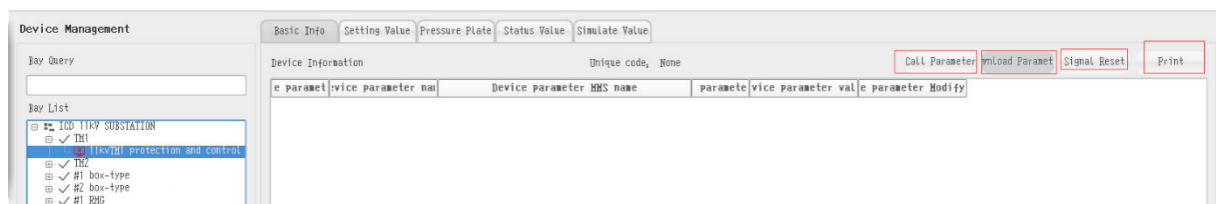

Figure 4.6.3 Device Parameter Management
- 1) Device parameter: retrieve the parameter information of protective, measuring and control device, download and print device parameters, and reset the signal of device, as shown in Figure 4.6.3.